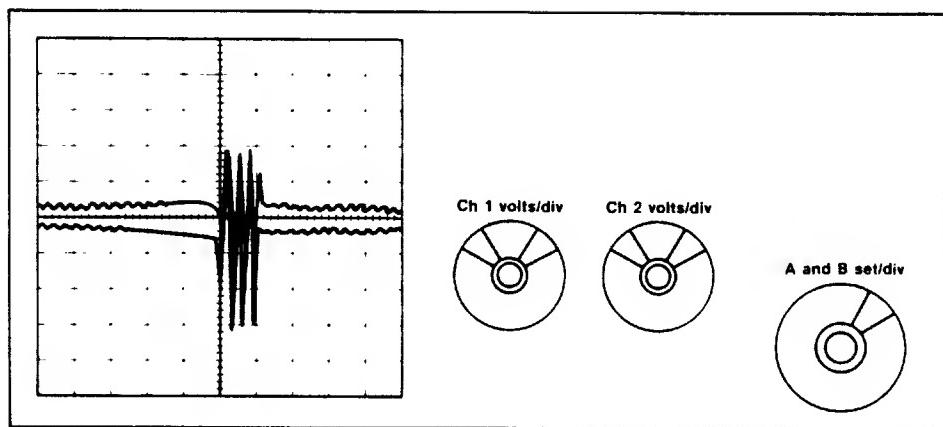

FIGURE 8-57. INDEX SENSOR SIGNAL
- 8.3.6.6 Observe timing between start of sweep and first data pulse on oscilloscope. Timing should be **200 ± 50** microseconds (Figure 8-57).